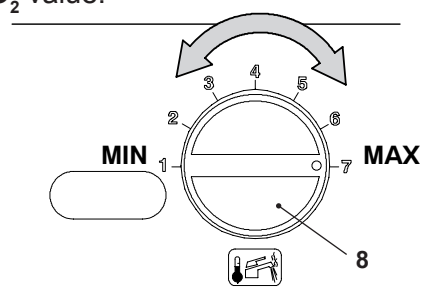

Figure 15.17
- Turn the hot water temperature knob 8 to the maximum Figure 15.17 and check the  $\text{CO}_2$  value.